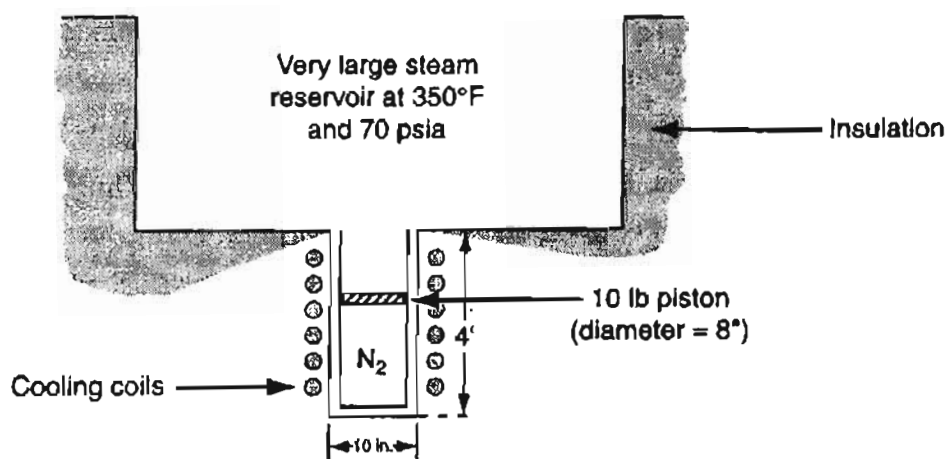

Figure P27.6
- **27.6** Nitrogen is being compressed by a piston as shown in Figure P27.6.